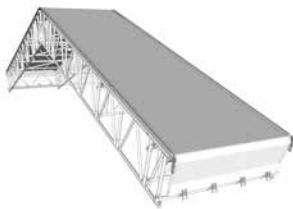
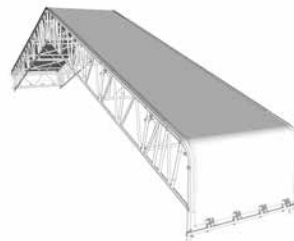
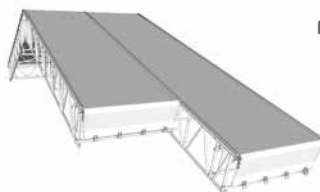

Fig. 31
Fig. 32
Fig. 33
There are three methods of eaves termination; using the Track Compressor (Fig. 31), the Eaves Beam (Fig. 32), or the Intermediate Roller Brace Coupler (Fig. 33).
- a. The vertical of the Altrix Beam just above the bottom chord (Fig. 31)
- b. Tube spigots fixed to the Eaves beam (Fig. 32).